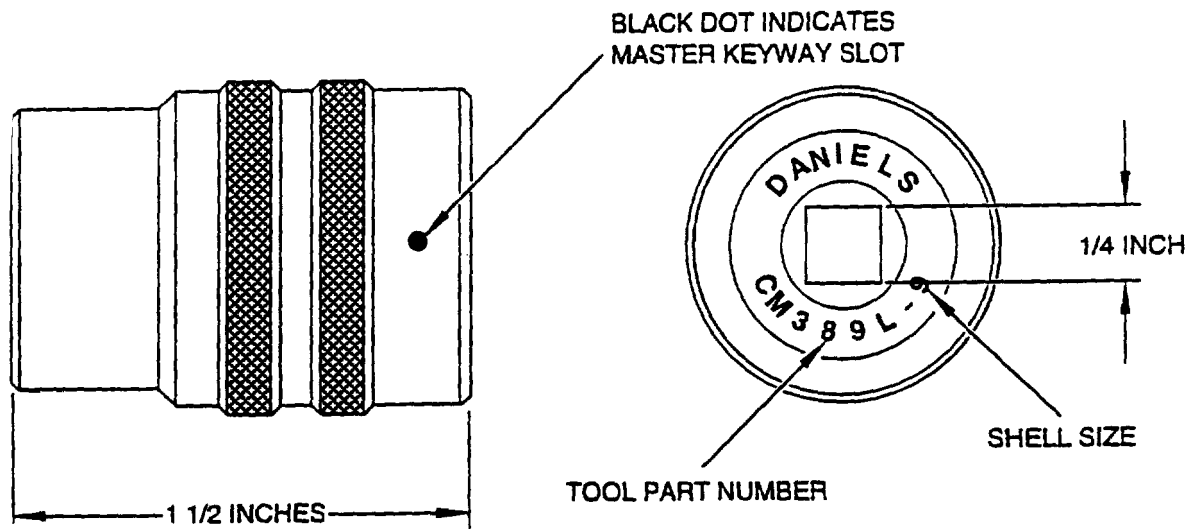
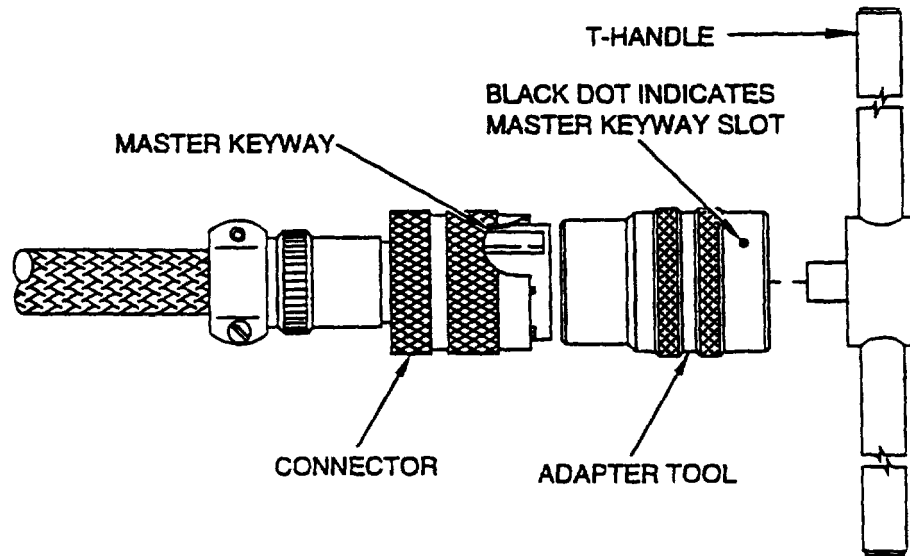

Figure 51. Daniels Accessory Adapter
Figure 52. Accessory Adapter In Connector
e. Mate adapter tool (Figure 51) into the front of the connector (Figure 52). The adapter tool part breakdown as follows:
(1) Example: CM389L-9
(2) CM: Daniels Manufacturing Corporation